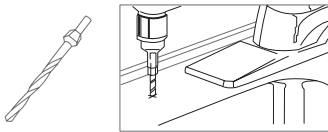

Fig. 5-1. Positioning hole drilling
1. Drill the positioning hole (diameter 3~5mm) using a drill. (Fig. 5-1)